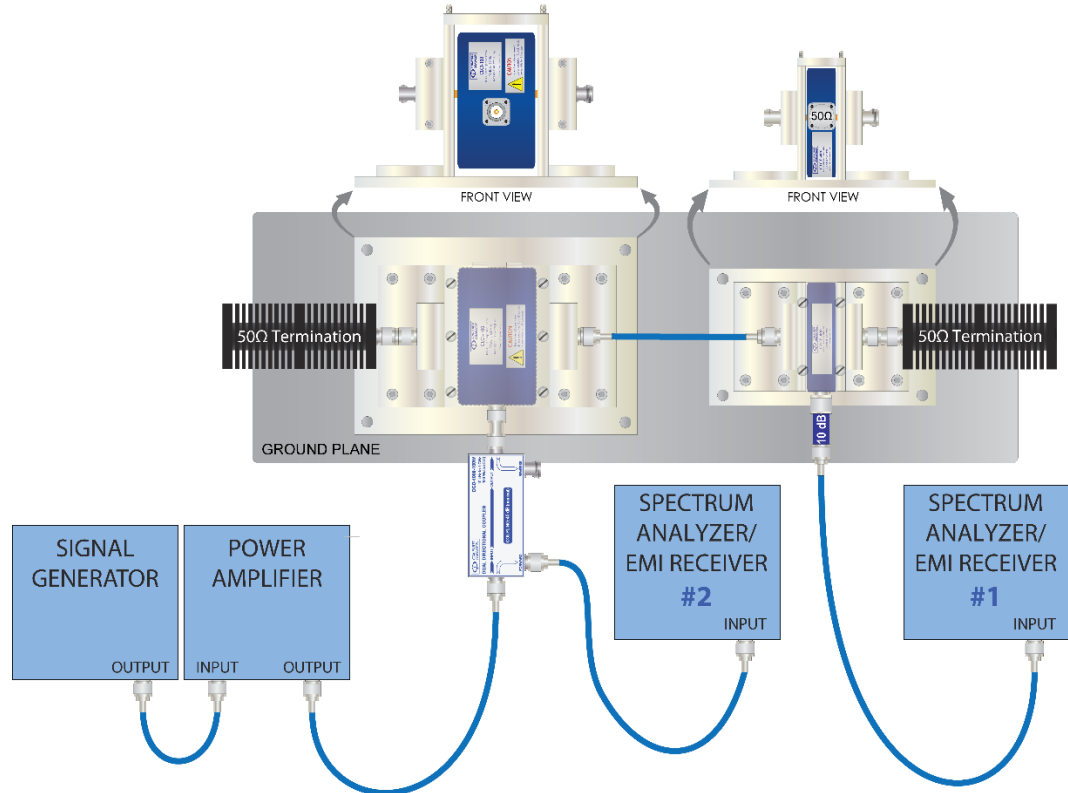

Figure 15 –Example Test Setup Diagram for Verification of Calibration Test Levels
- 1) Set up the equipment as described in the applicable standard or approved test plan. An example setup diagram is given in Figure 15.